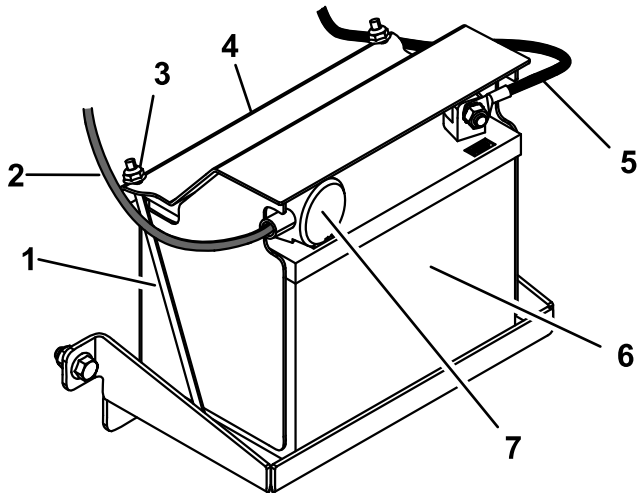

Figure 28
1. Place the battery on the tray and secure it using the battery cover, 2 securing rods, and 2 nuts (Figure 28).
4. Slide the red terminal boot onto the positive battery post (Figure 28).